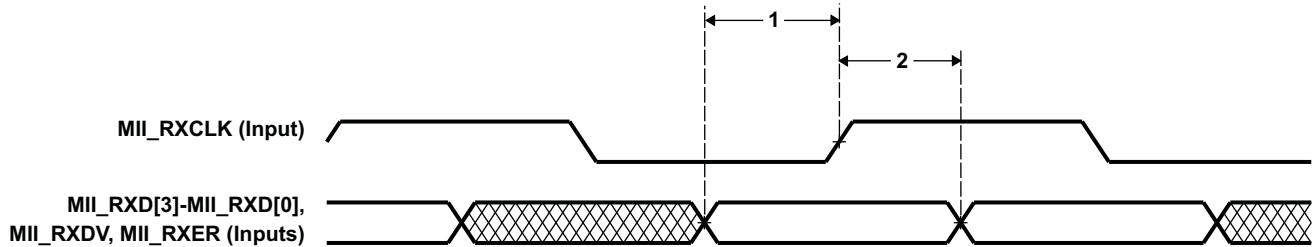

**Figure 5-48. MII\_TXCLK Timing (EMAC - Transmit)**
**Table 5-101. Timing Requirements for MII\_TXCLK (see Figure 5-48)**